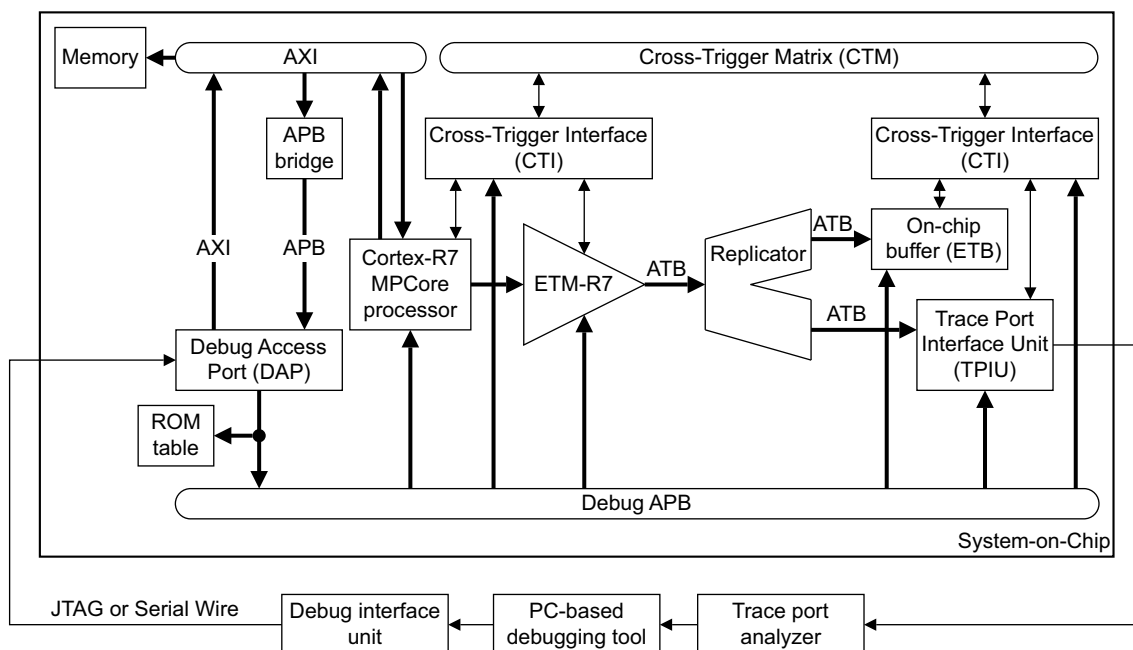

Figure 1-1 ETM-R7 system diagram
- Export the trace information through a trace port. An external *Trace Port Analyzer* (TPA) captures the trace information as Figure 1-1 on page 1-3 shows.
- Write the trace information directly to an on-chip *Embedded Trace Buffer* (ETB) or to system memory. You can read out the trace at low speed using a JTAG or Serial Wire interface when the trace capture is complete as Figure 1-1 on page 1-3 shows.
Figure 1-1 shows how the ETM-R7 fits into a CoreSight debug environment to provide full trace capabilities in a single processor system. In this example, the external debug software configures the trace and debug components through the *Debug Access Port (DAP)*. The ROM table contains a unique identification code for the SoC and the base addresses of the components connected to the debug APB. The trace stream from the ETM-R7 is replicated to provide on-chip storage using the CoreSight ETB or output off-chip using the TPIU. Cross-triggering operates through the *Cross Trigger Interface (CTI)* and *Cross Trigger Matrix (CTM)* components.
In Figure 1-1, the arrows on the thick lines show the transaction direction on busses, from master to slave port. Each bus contains individual signals that go from master to slave and other signals that go from slave to master.